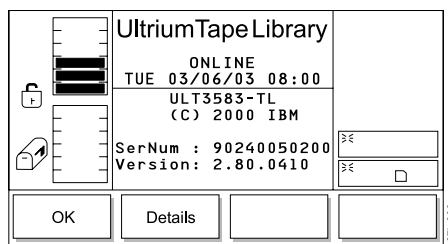

Figure 355. About Menu
2. Press the button below the **About** softkey. The About Menu displays the library's serial number and current version of firmware (see Figure 355).